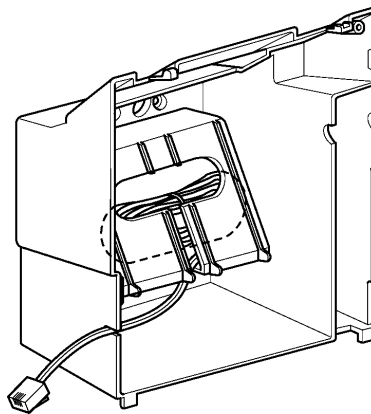

Figure 6-27: Leading the Line Cord out of the WMU-UA Unit
5. Place the bundled line cord in the space between the WMU-UA Unit and the wall. Lead the line cord out through the slits as shown in *Figure 6-27: Leading the Line Cord out of the WMU-UA Unit*.